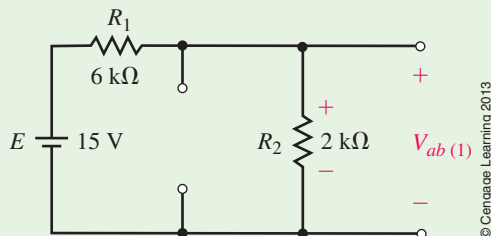

FIGURE 9-16
Step 5: Although several methods are possible, we will use the superposition theorem to find the open-circuit voltage V_{ab} . Figure 9-16 shows the circuit for determining the contribution due to the 15-V source.